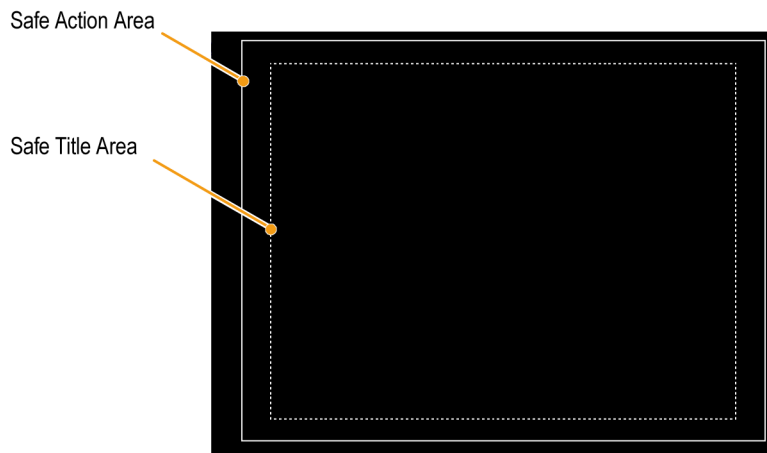

Figure 56: Safe Action and Safe Title areas
- The Safe Action Area shows the maximum image area within which all significant action should be contained; the Safe Title Area shows the maximum image area within which all significant titles should be contained. (See Figure 56.)